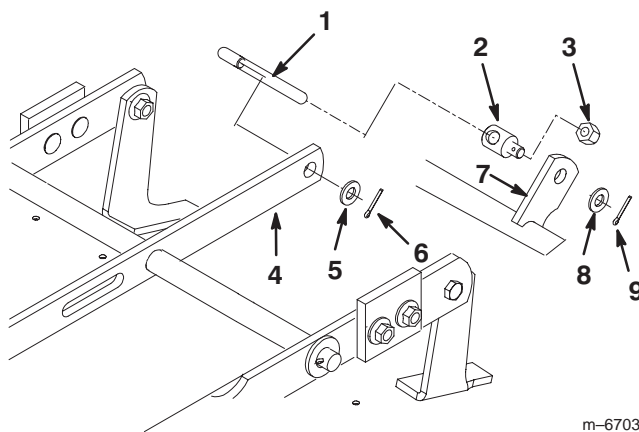

Figure 6
8. Assemble the lift trunnion and the lock nut (3/8 inch) onto the adjusting rod (Fig. 6).
9. Hook the adjusting rod into the leveler bar and secure with a washer and cotter pin (Fig. 6).
10. Insert the lift trunnion into the mower bracket and secure it with a washer (3/8 x 13/16 inch) (side discharge mowers only) and cotter pin (Fig. 6).